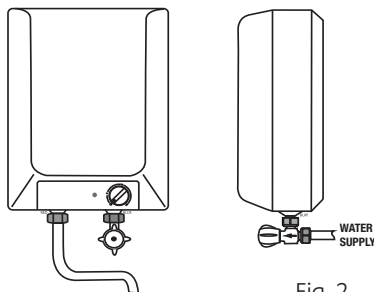

Fig. 2
- Fit the control valve to the cold water supply ensuring that the water will flow in the direction of the arrow indicated on the side of the control valve (Fig.2).